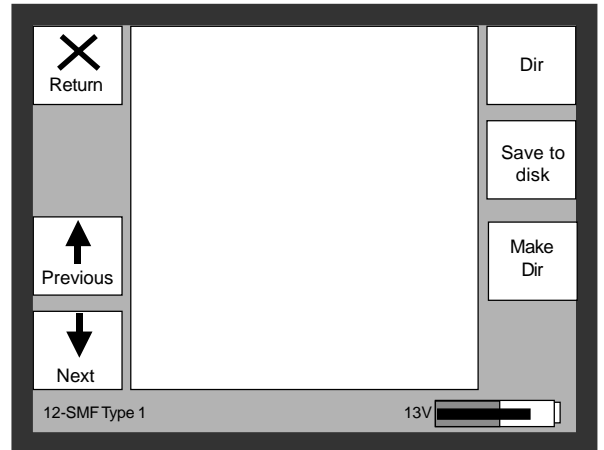

Fig. 75 - Monitor display after pressing RUN
2. The monitor changes as illustrated in fig. 75. At this point the window is empty and the user can choose to save the result either: